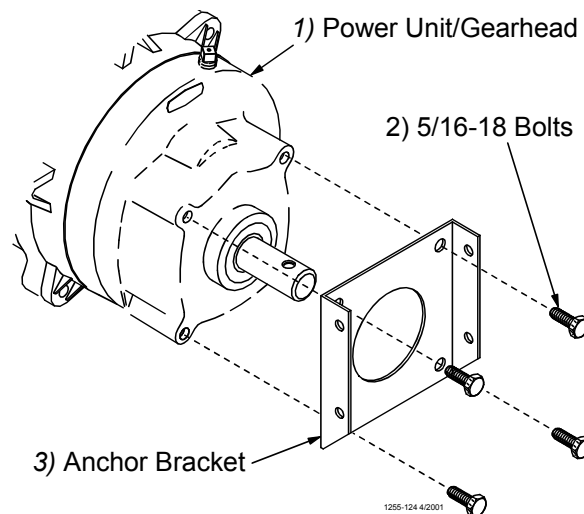

Figure 39. Assemble the Anchor Bracket to the Power Unit/Gearhead
3. Install the Anchor Bracket to the Power Unit/Gearhead, as shown in **Figure 39**, with the included 5/16-18 Bolts.